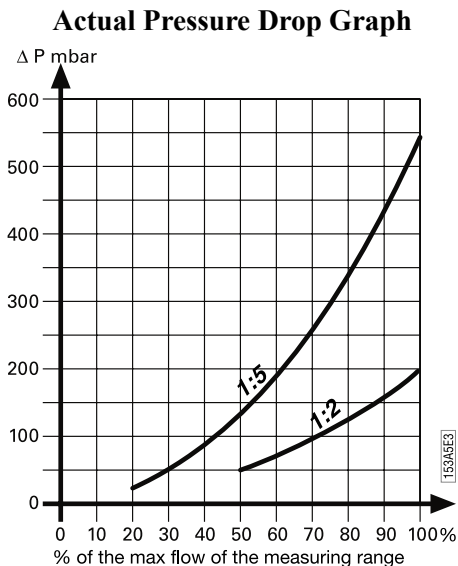

Figure 4
Furthermore, in order to use this  $\beta$ -value in the above formula, we need to determine the  $\Delta\rho(\text{apd})$ . We can either use the "Actual Pressure Drop Graph" (fig. 4) for an approximate value or for intermediate values we can use the formula below the graph (fig. 4). If we use the formula for calculate the  $\Delta\rho(\text{apd})$  at 15 l/min we will get;
*The Pressure loss curves in the graph (fig. 4) must serve as a guideline.*